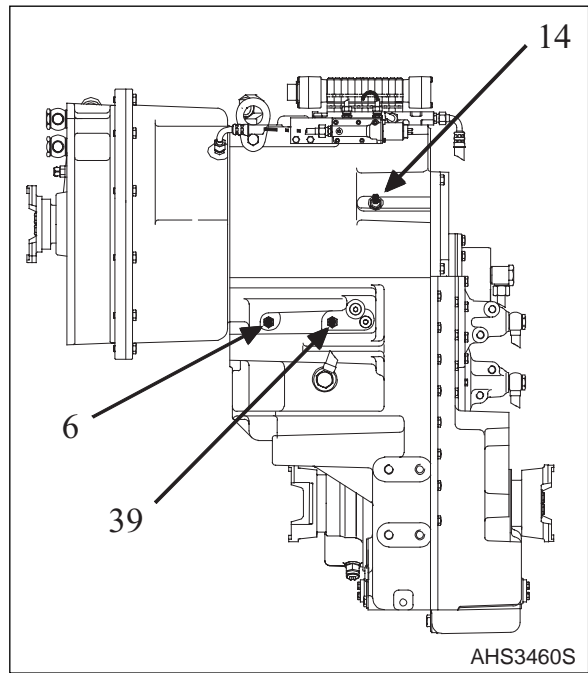

Figure 401
2. The following illustrations describe the reassembly, resp. the setting of the Inductive transmitter N engine (14, Figure 401). The reassembly of the Inductive transmitter N turbine (6, Figure 401) and N central gear train (39, Figure 401) has to be carried out accordingly.